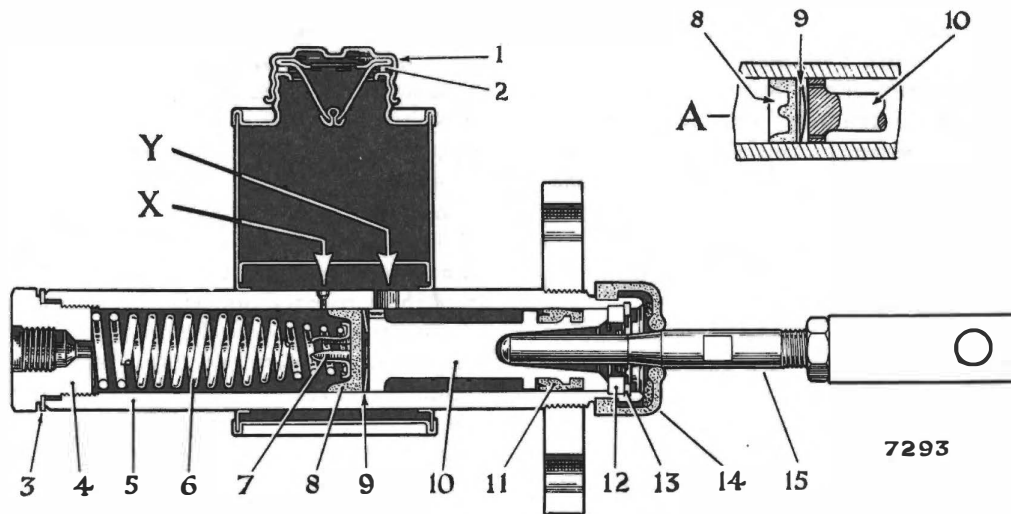

Fig. 17 Sectional view of master cylinder
A groove is formed round the edge of the master cylinder outlet plug (see item on fig. 17). This identifies it from the brake master cylinder, which has no groove. Clutch and brake master cylinders are not interchangeable, as the clutch master cylinder has no check valve. On cars with Servo assisted Brakes the Brake Master cylinder is larger.
This unit (Fig. 17) incorporates a fluid reservoir and a master cylinder. In front of the main rubber cup (8), when the system is at rest, is a by-pass port (X) which ensures that the system is full of fluid at all times, and allows full compensation for movement of the fluid due to changes of temperature. It also serves to release fluid drawn into the cylinder from the annular space formed by the reduced skirt of the piston (10), through the small holes in the piston, after each clutch application. If this additional fluid is not released to the reservoir through the by-pass port, due either to the hole being covered by the main cup as a result of incorrect
pedal adjustment, or to the holes being choked by foreign matter, pressure will build up in the system. In order that the rubber cup shall not be drawn into the holes in the piston head, a piston washer (9) is interposed between the two parts; it is important that this washer be assembled as shown on the illustration. (A Fig. 17).
#### To dismantle (Fig. 17)